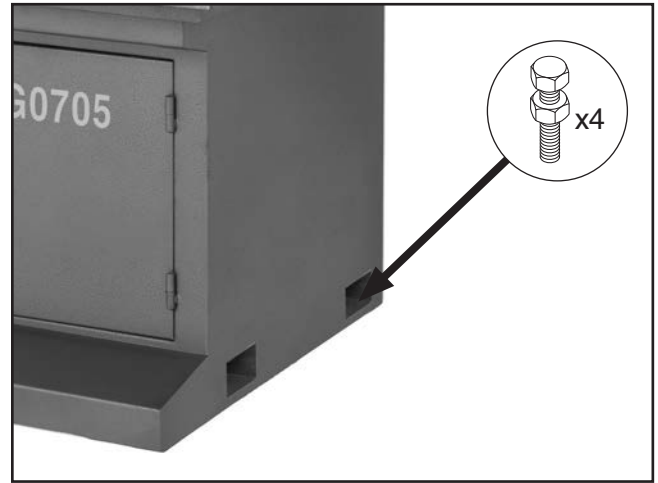

Figure 15. Installing feet lock nuts.
1. Thread one M12-1.75 x 40 hex bolt with one M12-1.75 hex nut into the bolt mounting hole on each corner of the base, as shown in **Figure 15**.